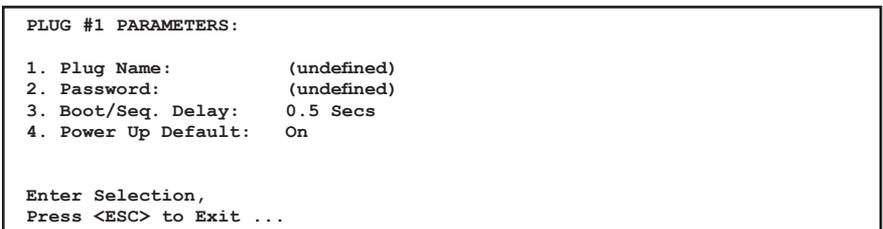

Figure 5.8: Plug Parameters Menu - Text Interface (Plug 1 Shown)
- **Text Interface:** Type /P *n* and then press [Enter] (Where *n* is the number or name of the plug you wish to configure.) The Plug Parameters Menu will be displayed as shown in Figure 5.8.